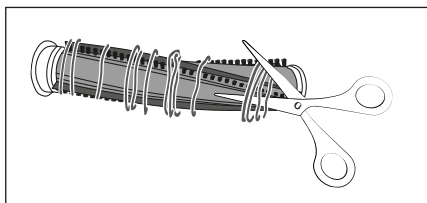

Fig. 24
- 4) Cut threads and hairs along the bristles of the rotary brush ⑱ with scissors (see Fig. 24). Remove threads and hair from the rotary brush ⑱.